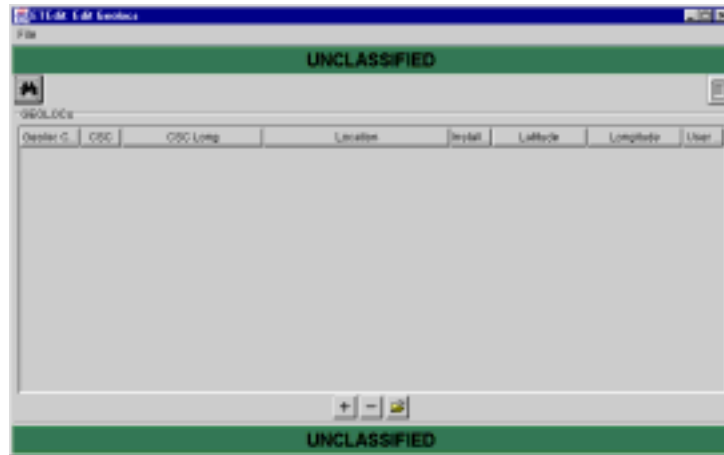

Figure 5.169 ETEdit: Edit Geolocs Window
- On the ETEdit (main) window, on the Reference menu, click GEOLOC FILE>Edit GEOFILE. The ETEdit: Edit Geolocs window opens (Figure 5.169).